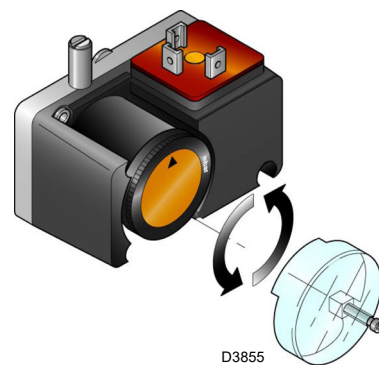

Fig. 30
- Adjust the minimum gas pressure switch (Fig. 30 at page 33) to the start of the scale.
Adjust the minimum gas pressure switch (Fig. 30) after having adjusted the burner, the gas valves and the gas train stabiliser. With the burner operating at maximum output: